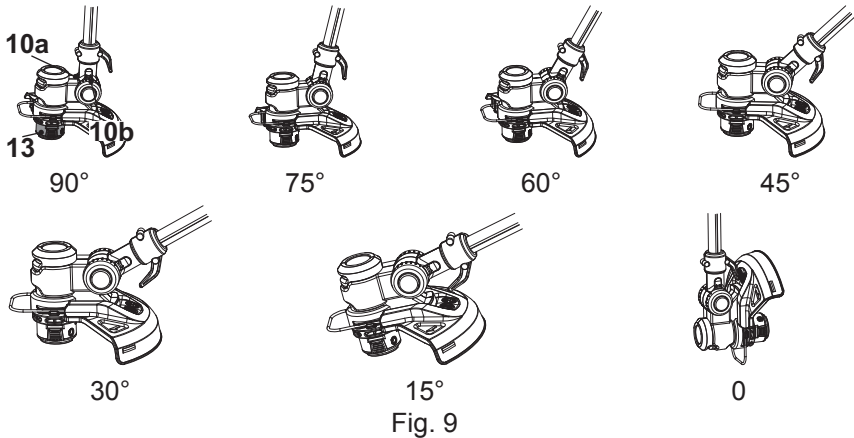

Fig. 9
Tilt the angle of trimmer head (13) to fit the ground conditions for trimming or edging use by aligning the indicator (10a) with the indication line (10b) (Fig. 9).